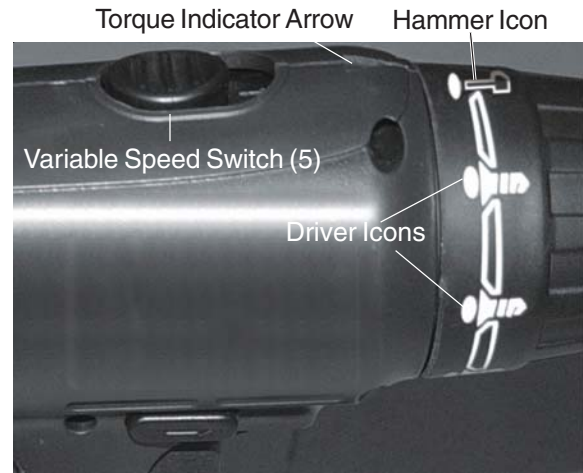

FIGURE 5
- Set the speed by adjusting the Variable Speed Switch (5) to either 1 (low) or 2 (high). High speed is generally used for drilling applications and low speed is generally used for screw driving applications. See **FIGURE 5**.
- Set the Torque by aligning the desired Torque setting with the Torque Indicator Arrow. See **FIGURE 5**. There are seven Torque setting icons. They range from low driving settings, to drill settings, to the impact or hammer drill setting. When using the Hammer Drill setting, line up the Hammer Icon with the Torque Indicator Arrow as shown in **FIGURE 5**. When using the Hammer Drill as a driver, use the Driver Icons, also shown. The Drill Icon is not shown in figure 5 but looks like a drill bit. Higher torque settings (Drill Icon or Hammer) will break the heads off of screws. Only use the Drill setting to bore or drill into an object. The Hammer Setting works well when drilling/chipping into concrete. It is generally used to bore holes with the purpose of breaking up material.